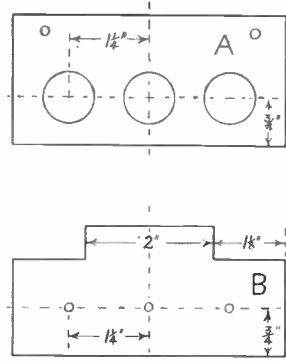

Fig. 4—Pipette holders
lowed by piece 10, the beak-head, cut as in Fig. 4. We now cut one bulwark or upper side piece (11) and glue it in place on the hull, followed by one gallery side and the gallery end cut as in Fig. 5. When one each of the fore, main and mizzen channels are cut and glued in position, the little hull is complete.
For the pipette holders (Fig. 4) two pieces of wood  $4\frac{1}{2}$  ins. by 2 ins. will be needed. The broken lines make centring easy. In the upper holder (A) the holes are sawn or drilled  $\frac{3}{8}$  in. wide. This section is, of course, simply screwed into the cut-out on the back board. The